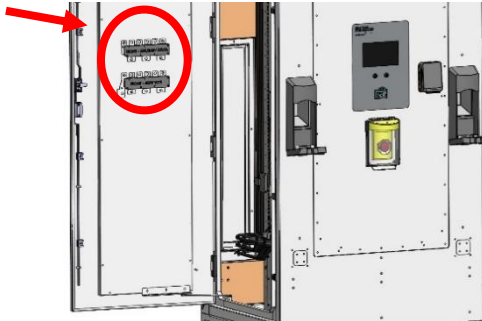

Figure 42 - Inside left door is shipping/storage location of 2 configuration bus bars
11. The two configuration bus bars/plates shown in Figure 41 are included with your charger and ship in their storage position anchored inside the left door (see Figure 42). Select the configuration bus bar required for your site's AC Input Power Configuration and unscrew it from the door.